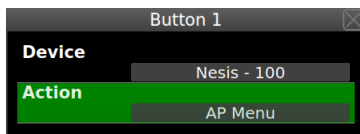

Figure 77: Joyu button 1 was assigned to Aetos with serial number 100 with the autopilot menu action.
2. Assign a device from the list and its action to the button pressed in the previous step. Figure 77 shows an example for button 1.